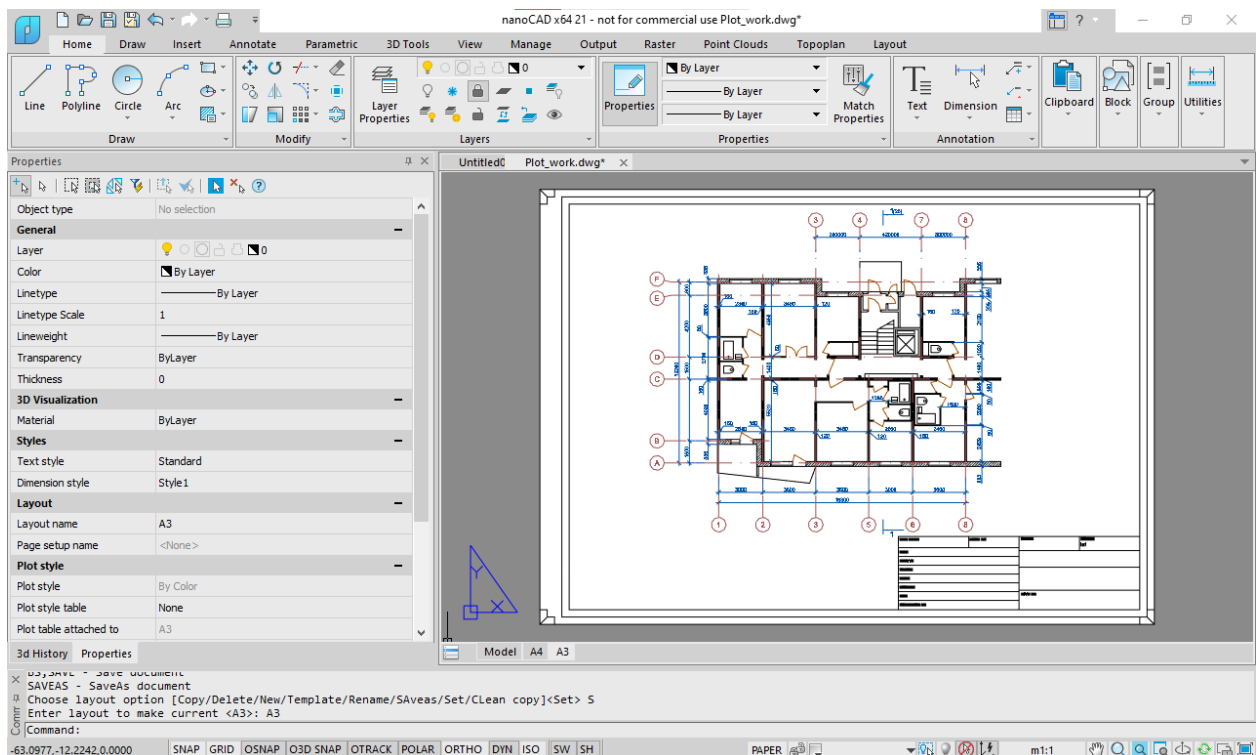

Fig. 49. Paper space
6.1. Plot from the paper space to Internal PDF Printer (fig. 49).